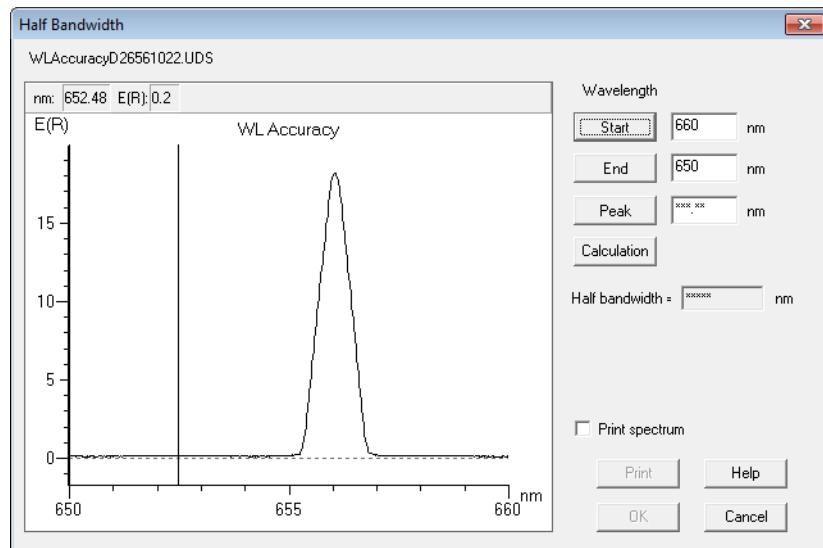

Fig. 5-88
Click the  (Half Bandwidth) button on the data processing toolbar. The window shown in Fig. 5-88 will appear. (It is also possible to select the Half Bandwidth (B) command from the data (D) menu.)
- (1) When printing the result of half bandwidth calculation simultaneously with the spectrum, check Print spectrum shown in Fig. 5-91. (Refer to ① in Fig. 5-88.) When the spectrum is not to be printed, uncheck it.